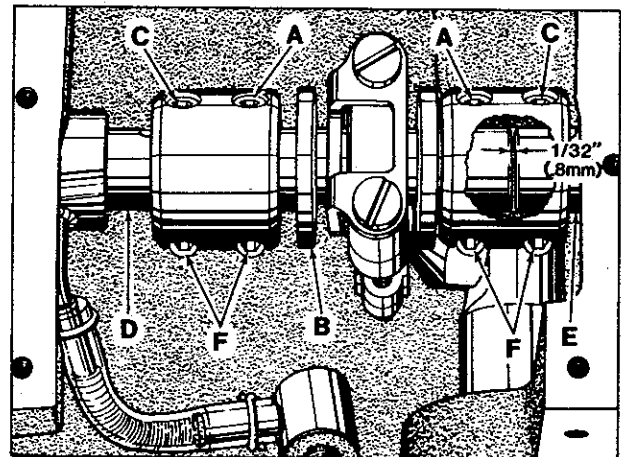

Fig. 16
As viewed looking down from rear of machine, spot screws (A, Fig. 16) in the couplings must align with the spots in the looper drive crank (B) and set screws (C) must align with the flats on crankshaft (D) and mainshaft (E).
Looper drive crank (B, Fig. 16) must be positioned laterally with 1/32 inch (.8mm) clearance between it and mainshaft (E) as shown in Fig. 16. Once these settings are made, it is very important that the couplings are tightened in the following sequence for best performance.